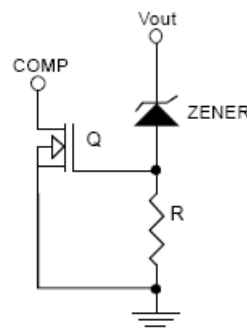

Figure 5. Use External Zener
- (2) Use external zener to clamp the output peak voltage (See Figure 5).